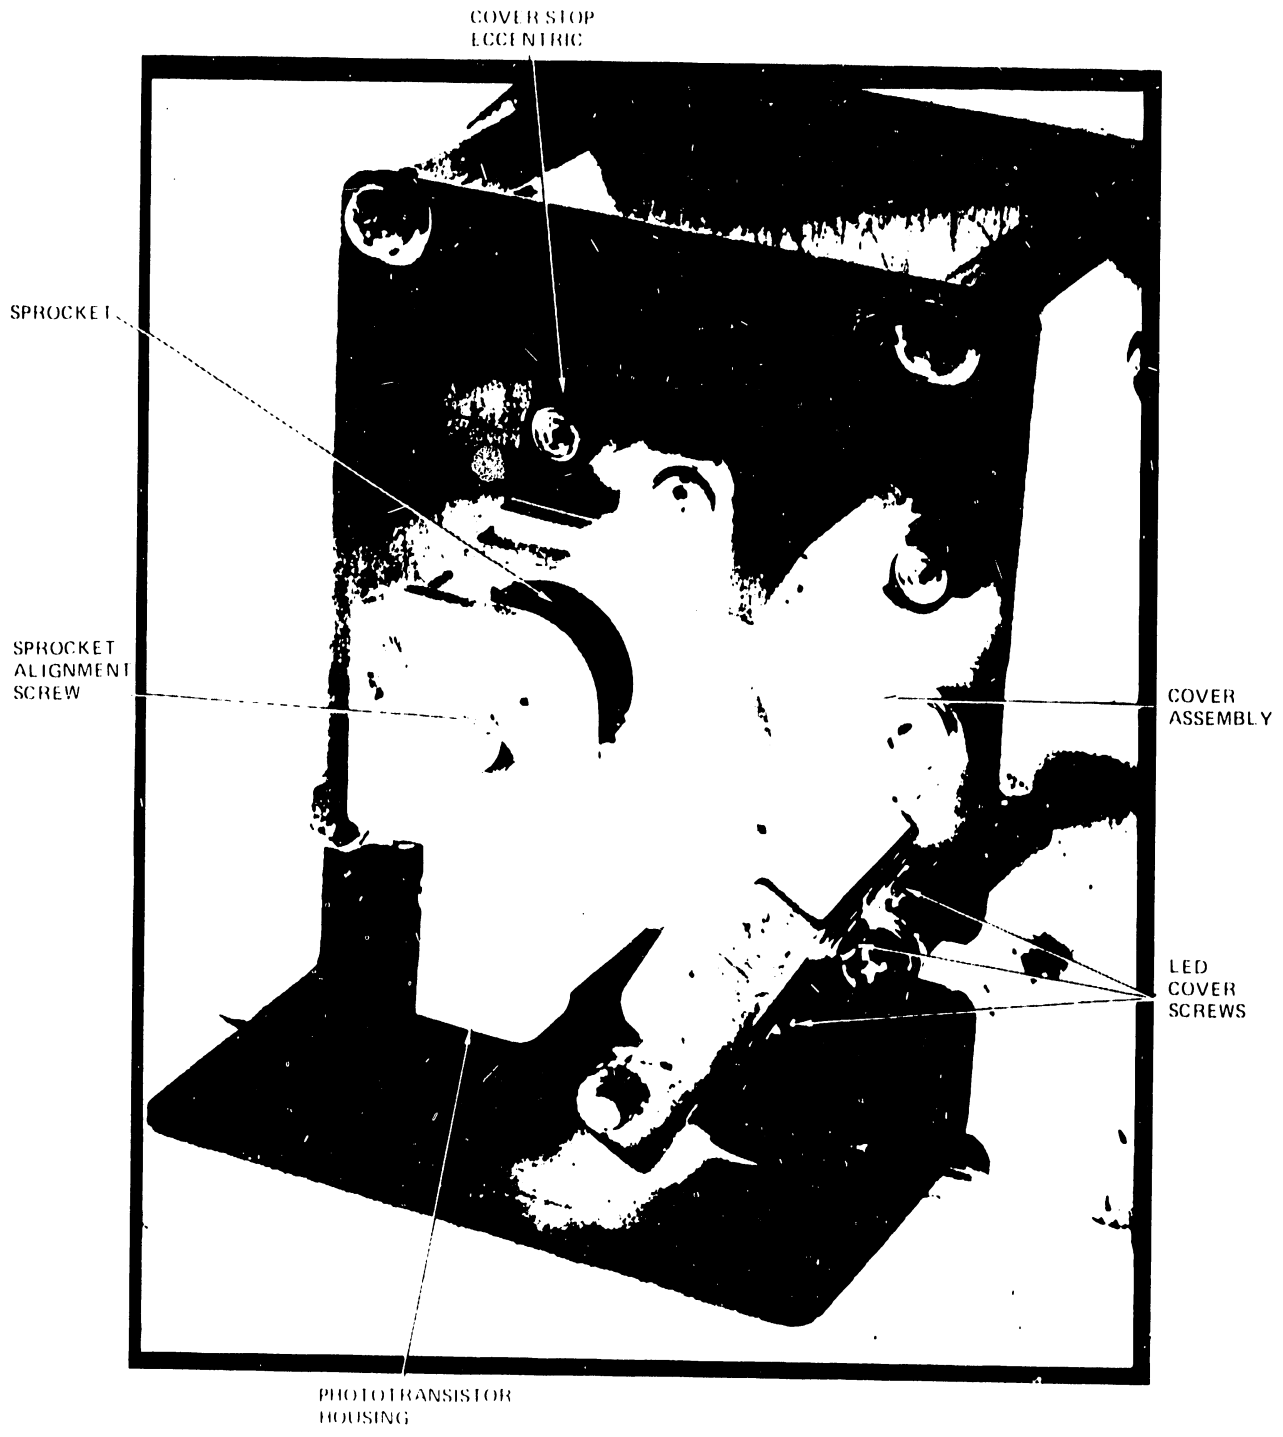

Figure 5-54. Vertical Format Tape Reader
1. See that the sprocket rim and the curved surface of the phototransistor housing are even and parallel. See Figures 5-54 through 5-56.
3. To center the VFU tape (lateral adjustment), turn the sprocket alignment/retaining screw. See Figures 5-54 and 5-56. A spring, located under this screw, keeps the screw at even tension as it is turned.
- a) With the format tape removed and with the cover assembly closed, loosen the three LED cover screws (see Figure 5-54) and move the cover up or down to obtain +5 volts on both channels, while still maintaining the clearance specified in step 2. Retighten the LED cover screws.